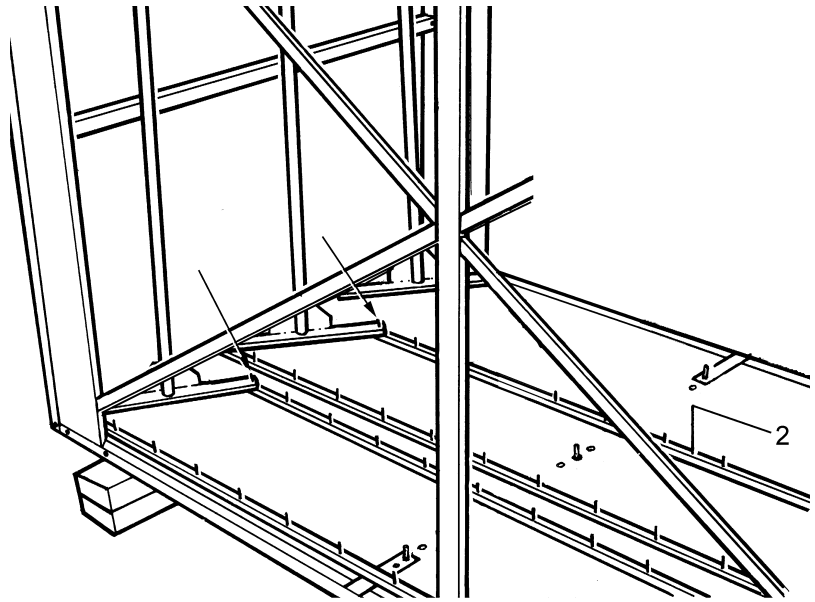

Figure 13
**Step 10:** Place a turning bar assembly (Item 2) onto the back panel. Carefully insert the top pin (the short pin) of the turning bar through the hole in the turner shaft end piece (Figure 13). Repeat with the five (5) more turning bars.